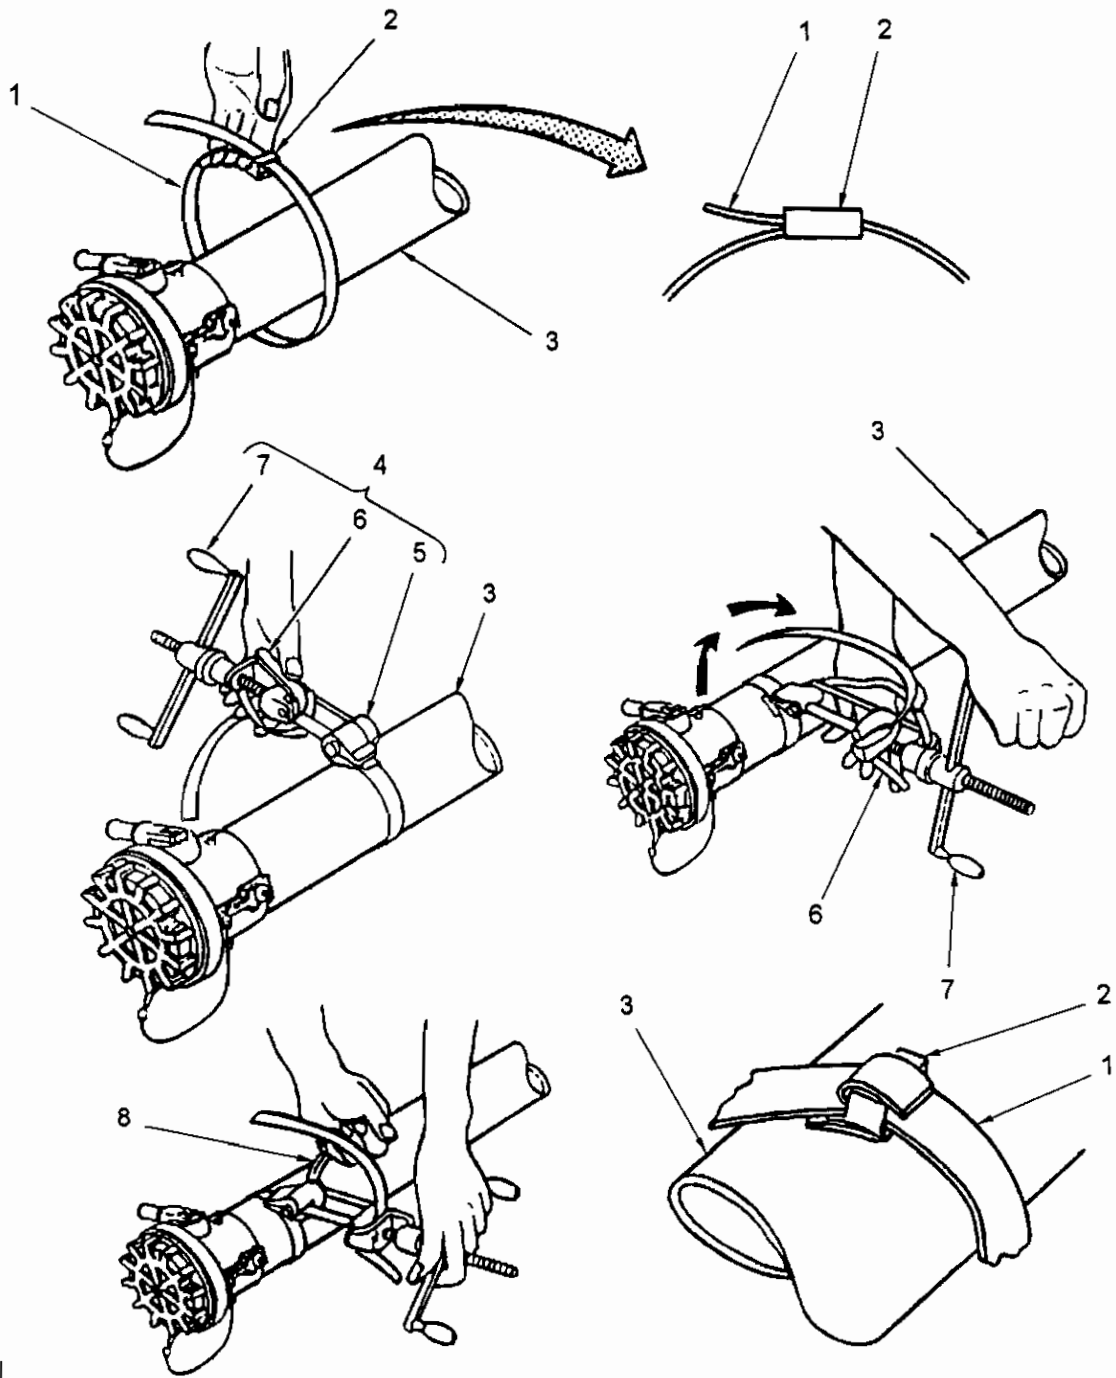

Figure 4-8. Assembly of Repaired Fuel Hose
- (1) Replace damaged components and all mandatory replacement parts.
- (2) Repair unisex valve coupling assembly (7) IAW para. 4.8.3 through 4.8.6 or refer to unit maintenance.
- (3) Slide sleeve (1) onto hose (4) and position it about 12 inches back from end of hose.
- (4) Fold ends of grounding wires into hose (4).
- (5) Push unisex valved coupling assemblies (7) into ends of hose (4).
- (6) Perform continuity test between unisex coupling assemblies (7) to ensure ground wires are firmly seated. Continuity must exist.
e. Assembly. (Figure 4-8)
- (1) Wrap end of clamp (1) around hose (3) and through seal (2).
- (2) Wrap another loop of clamp (1) around hose (3) and through seal (2).
- (3) Position tag end of clamp (1) in slots of clamping tool (4). Tool nose (5) should fit snug against seal (2).
- (4) Apply pressure to gripper lever (6) and turn handle (7) until clamp (1) is snug. Tool will lock in place when correct tension is applied. Reposition tool as required.